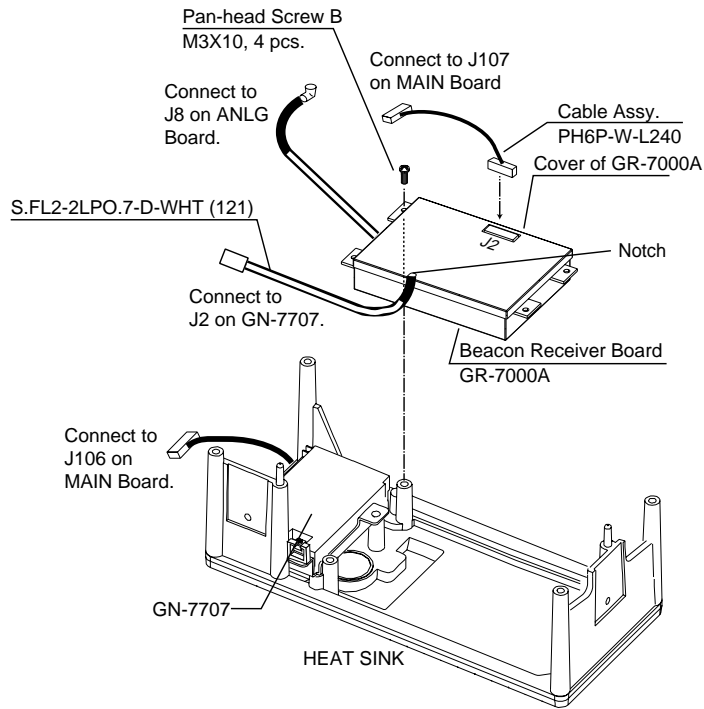

Figure 4-6 Installation of DGPS beacon receiver
8. Connect cable assy. S.FL2-2LP0.7-D-WHT (121) (supplied) to J3 of the GR-7000A.
10. Connect connector assy. PH6P-W-L240 to J2 of GR-7000A (Refer to Figure 4-6).